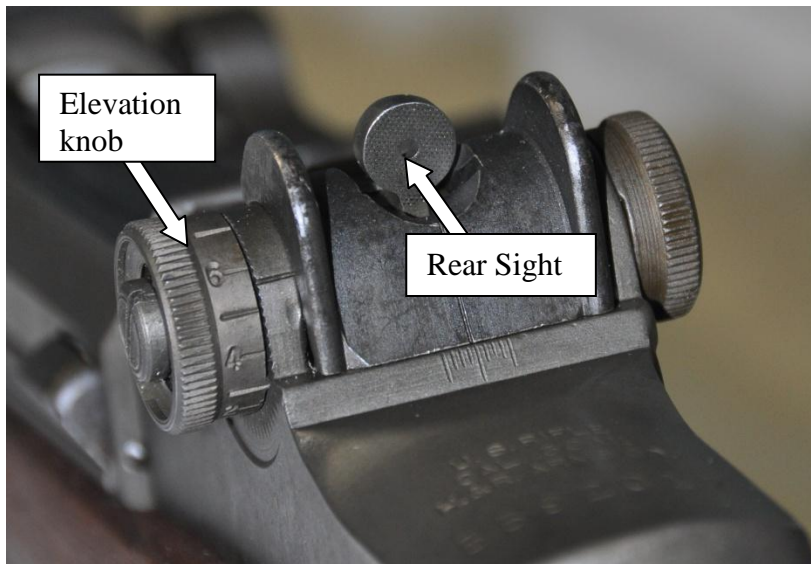

Figure 9. Elevation knob
- 2) Rotate the elevation knob so the rear sight is at its lowest position (fig 9). Invert the rifle and place it on a flat surface so that the trigger assembly is facing upward. While securing the rifle with one hand, pull rearward and upward on the trigger guard (fig 10 and 11). Lift straight up to remove the trigger housing assembly.